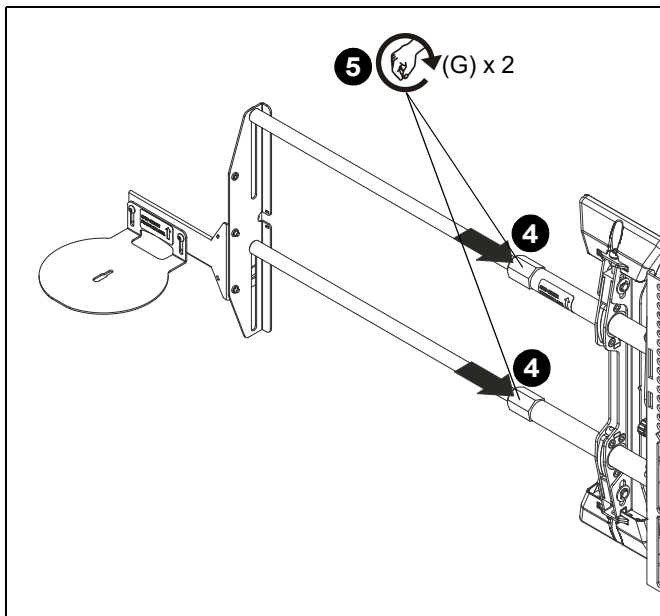

Figure 5
4. Insert ends of extension bars (F) into open endings of mounting system. (See Figure 5)
5. Tighten bushings (G) to secure extension bars (F) to mounting system at desired location. (See Figure 5)